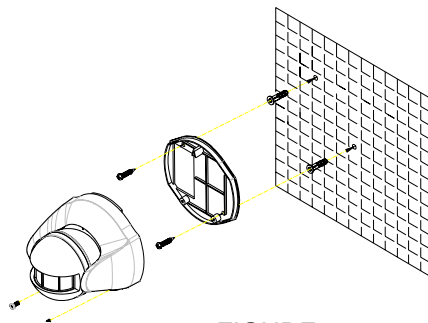

FIGURE 4
- Hold the rear cover in position and mark the two mounting holes. Drill the holes, insert the plastic wall plugs and screw the rear cover to the wall using the screws supplied. Offer the Detector up to the rear cover using screws as originally supplied. (FIGURE 4)